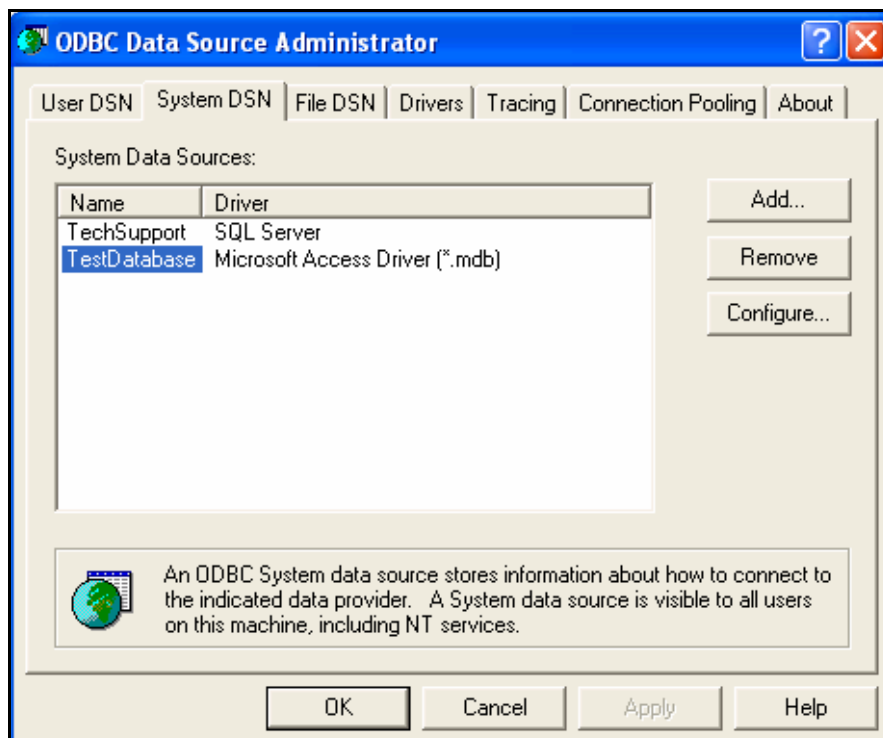

Figure 56 - List of System DSNs
11. TestDatabase should now appear in the list of system DSNs (Figure 56) that the user notices in the **ODBC Data Source Administrator** window.